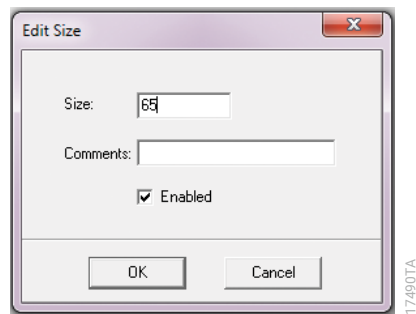
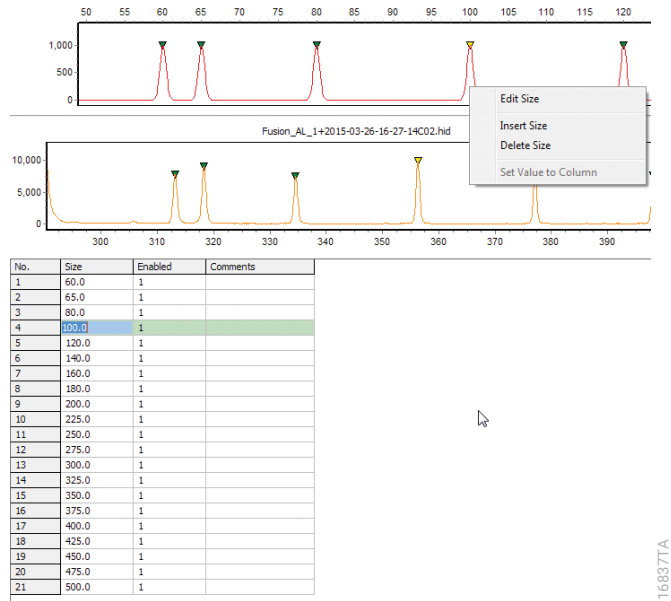

Figure 134. The 'Edit Size' window.
Figure 136. Editing an existing fragment in the Expected Size Standard Chart.
Comments: Displays any comments that are made in the 'Comments' field of the 'Edit Size' window (Figure 134).
2. The 'Edit Size' window appears (Figure 134). Enter the size of the expected peak in the 'Size' field.
4. The 'Edit Size' window appears (Figure 134). Enter the appropriate fragment size and select the appropriate Enabled status, as described in Method 1, above.
- To edit the selected peak, right-click and select **Edit Size** (Figure 136). The 'Edit Size' window (Figure 134) will appear allowing you to edit the size and Enabled state of the peak as well as to add a comment. Select **OK** to apply the change and close the 'Edit Size' window. To apply the Enabled status of one peak to all peaks in a size standard template, select the **Enabled** cell of the peak in the Expected Size Standard Table, then right-click the cell and select **Set Value to Column** (Figure 136).
- To delete a fragment within a size standard template, select the desired peak in either the Expected Size Standard Chart or Expected Size Standard Table, right-click and select **Delete Size** (Figure 136 and Figure 137).
- To insert a fragment within a size standard template, select the desired peak in either the Expected Size Standard Chart or Expected Size Standard Table, right-click and select **Insert Size** (Figure 136 and Figure 137). The 'Edit Size' window will appear with the interpolated size listed in the 'Size' field and the "Enable"d box checked. If this is the intended size and Enabled state for the inserted size, select **OK** to the new size fragment, and close the 'Edit Size' window; otherwise, edit the 'Size' field and Enabled status to the desired settings before selecting **OK**.